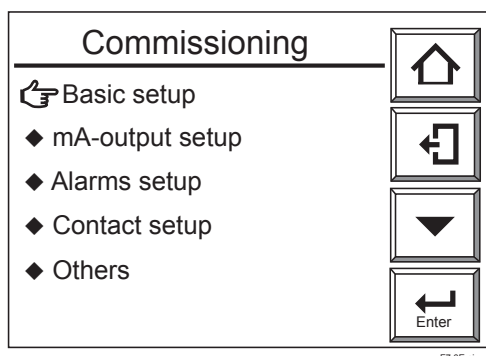

Figure 7.4 Commissioning Display
- (1) Press the [Setup] key.
- (2) Use the [▼] key to select “Commissioning” and press the [Enter] key.
- (3) In the password display, enter the [Enter] key. If the password is to be set again, enter the new password (for details, see Section 8.6.6, Setting Passwords, later in this manual).
- (4) The Commissioning display shown in Figure 7.4 appears. Select “Basic setup” and press the [Enter] key.